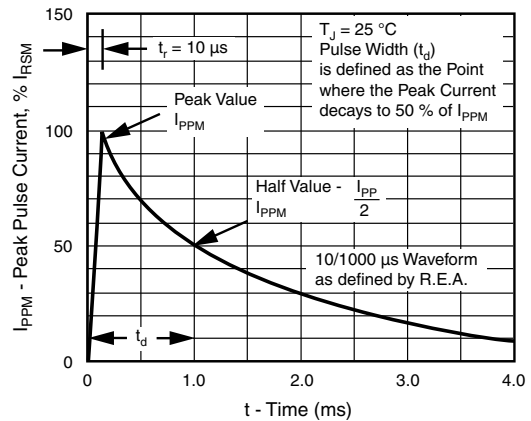
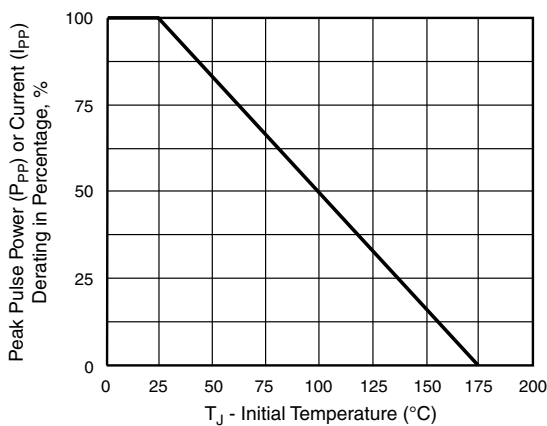

Fig. 3 - Pulse Waveform
Fig. 2 - Pulse Power or Current vs. Initial Junction Temperature
⁽¹⁾ Non-repetitive current pulse, per fig. 3 and derated above $T_A = 25$ °C per fig. 2
- (1) Pulse test: t_p ≤ 50 ms
- (2) Surge current waveform per fig. 3 and derate per fig. 2
- (3) For bidirectional types with V_{WM} of 10 V and less the I_D limit is doubled
- (4) All terms and symbols are consistent with ANSI/IEEE CA62.35
- (5) Underwriters laboratory recognition for the classification of protectors (QVGG2) under the UL standard for safety 497B and file number E136766 for both unidirectional and bidirectional devices